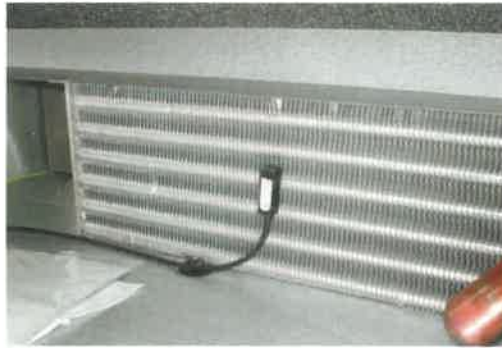

Figure 8
- c. Insert the legs of the Encapsulated Temperature Sensor in to the evaporator coils. See figure 8.